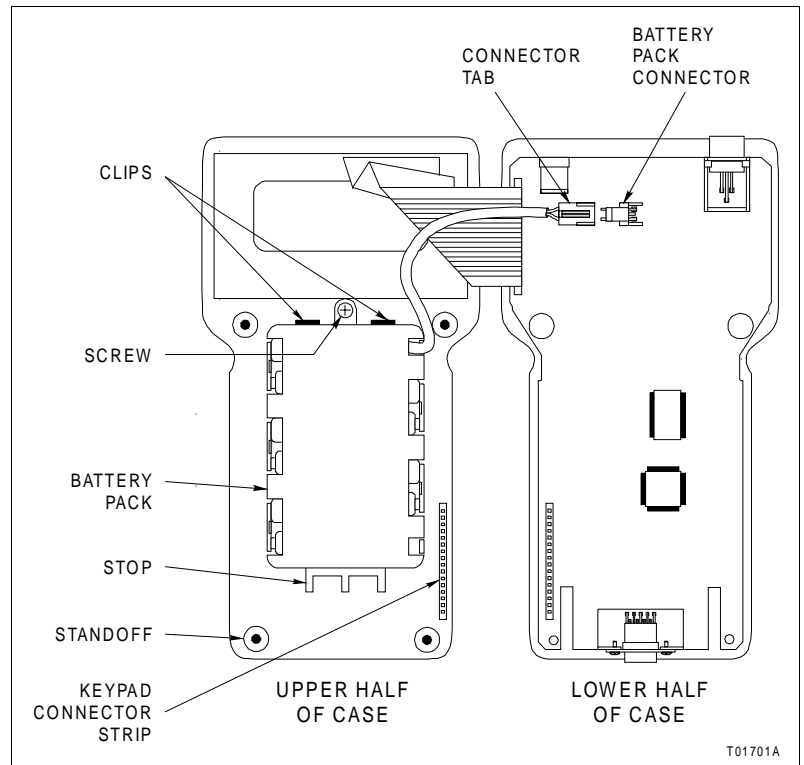

Figure 6-1. Internal Component Locations
5. Grasp the PC board by the edges and turn it over so the components on the board are facing up (Fig. 6-1).
7. Locate the battery pack connector on the circuit board (Fig. 6-1).
9. Remove the screw securing the battery pack (Fig. 6-1).
13. Turn the replacement battery pack over (batteries facing down), and insert the bottom tabs under the Stop on the housing (Fig. 6-1).